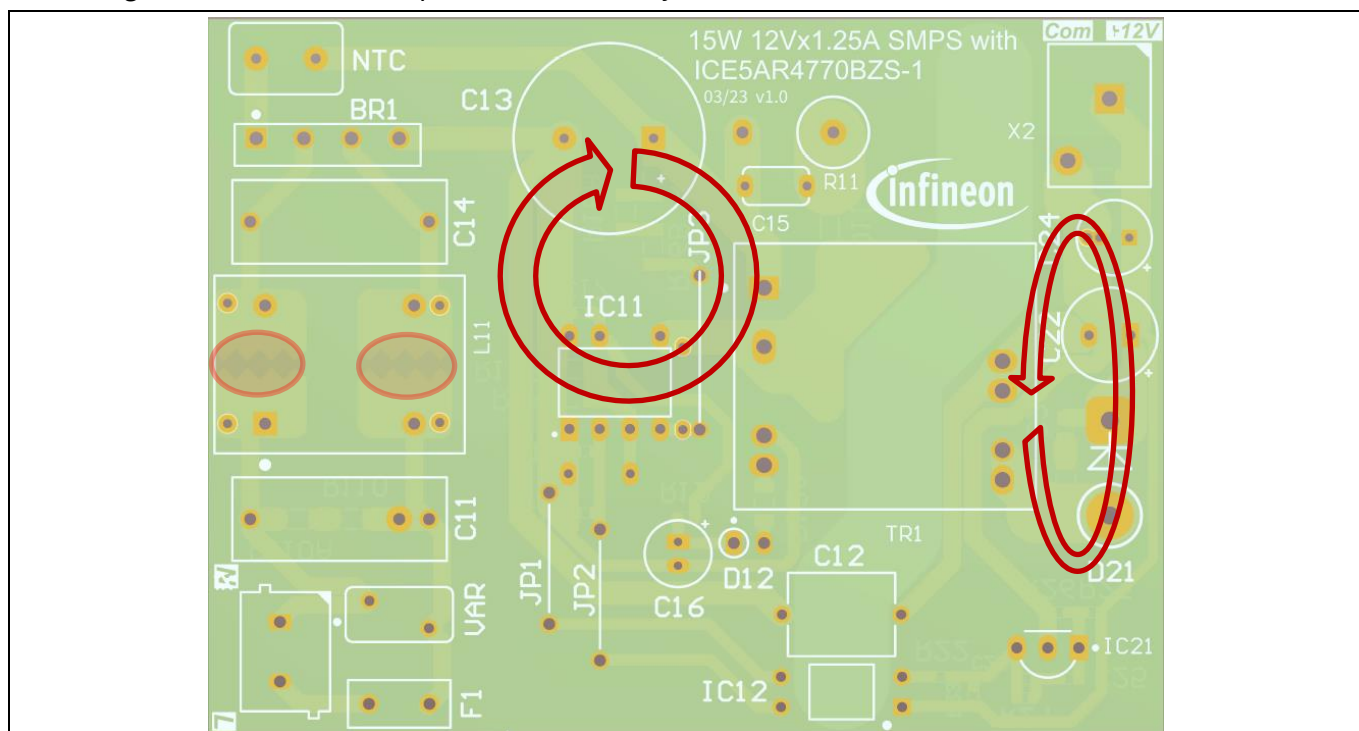

Figure 6 PCB layout recommendations
- The power loop needs to be as small as possible (see Figure 6). There are two power loops in the reference design; one from the primary side and one from the secondary side. For the primary side, it starts from the bulk capacitor (C13) positive to the bulk capacitor negative. The power loop components include capacitor (C13), the main primary transformer winding (pin 1 and pin 3 of TR1), the DRAIN pin, and the CS pin of the CoolSET™ IC11 and CS resistors (R14 and R14A). The secondary side power loop comprises the secondary transformer windings (pin 7 and pin 10 of TR1), output diode (D21), and output capacitors (C22 and C24).
- Use the star ground connection to avoid unexpected high frequency (HF) noise coupling affecting control. The ground of the small-signal components, e.g., capacitors (C17 and C18), and the emitter of the optocoupler (pin 3 of IC12), etc., must connect directly to the IC ground (pin 8 of IC11). Then it connects to the negative terminal of the capacitor (C13) directly.
- Separating the HV components and low voltage (LV) components, e.g., the clamper circuit (D11, R11, and C15) at the top part of the PCB (see Figure 6) and the other LV components at the lower part of the PCB, can reduce the spark-over chance of the high energy surge during ESD or a lightning surge tests.